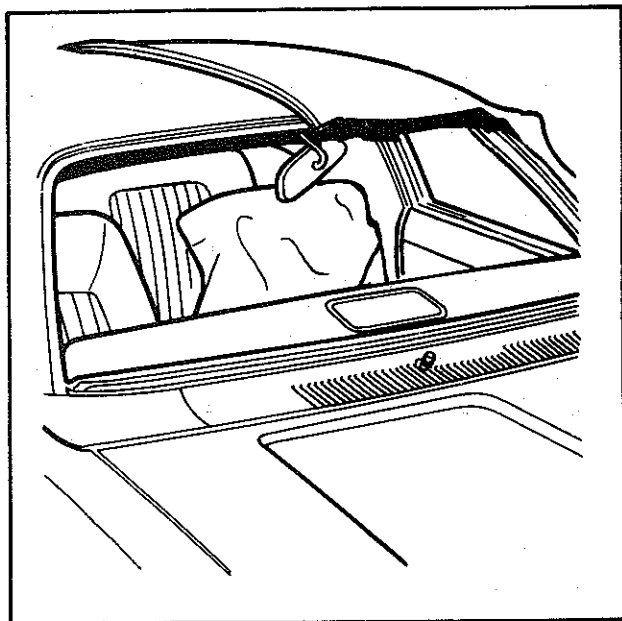

Fig. 5—Positioning for adhesive application
(6) When the cover is correctly positioned, fold one half back over the other half (Fig. 5) ready for application of adhesive.
(Fig. 5) ready for application of adhesive.